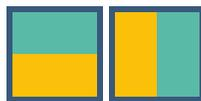

Figure 6.8-4 - Design Strips in X- and Y- Direction
- Use **Floor Design | Strip Results/Visibility | Display/Hide X- or Y- Tributaries** to view the generated column strips and middle strips in either direction as shown in **Figure 6.8-4**. Middle and column strips are shown hatched in **Figure 6.8-5** for this example.